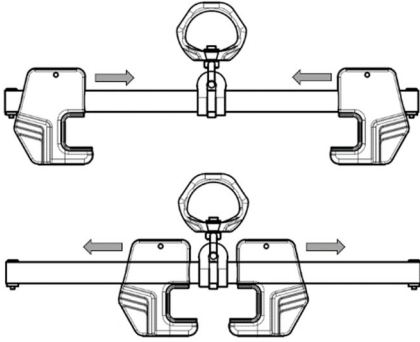

Figure 2: Adjustable Directions
6.1 ADJUSTABLE DIRECTIONS: Refer to Figure 2 for hook adjusting directions.